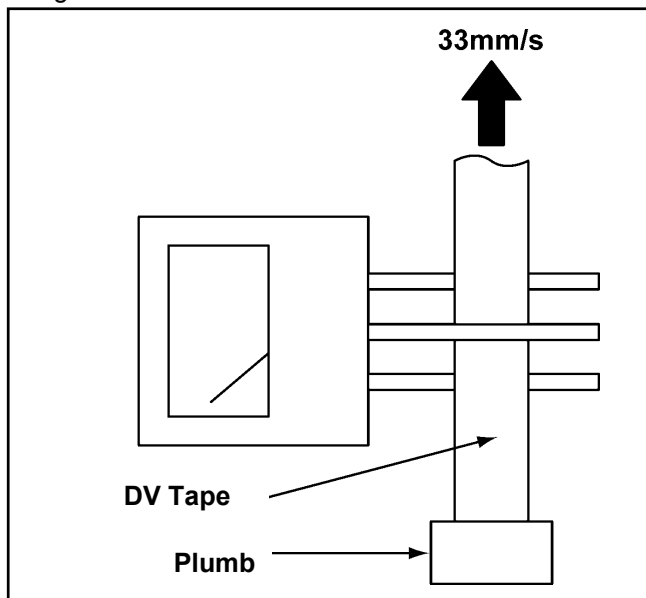

Figure 1-11-1
2. Set the above tape to the Tension Meter as shown in figure 1-11-1.
- ◆ To calibrate Tension Meter the tape must be pulled up as the direction of tape path of VTR as shown in figure 1-11-1.